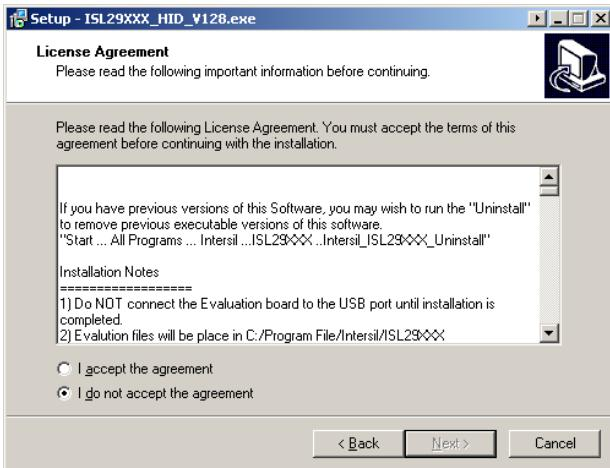

FIGURE 3. INSTALLATION LICENSE AGREEMENT SCREEN
- To open the program, go to the "Start" menu, as shown in Figure 3 (Start → Intersil → Intersil\_29XXX\_HID → Intersil\_29XXX\_HID)